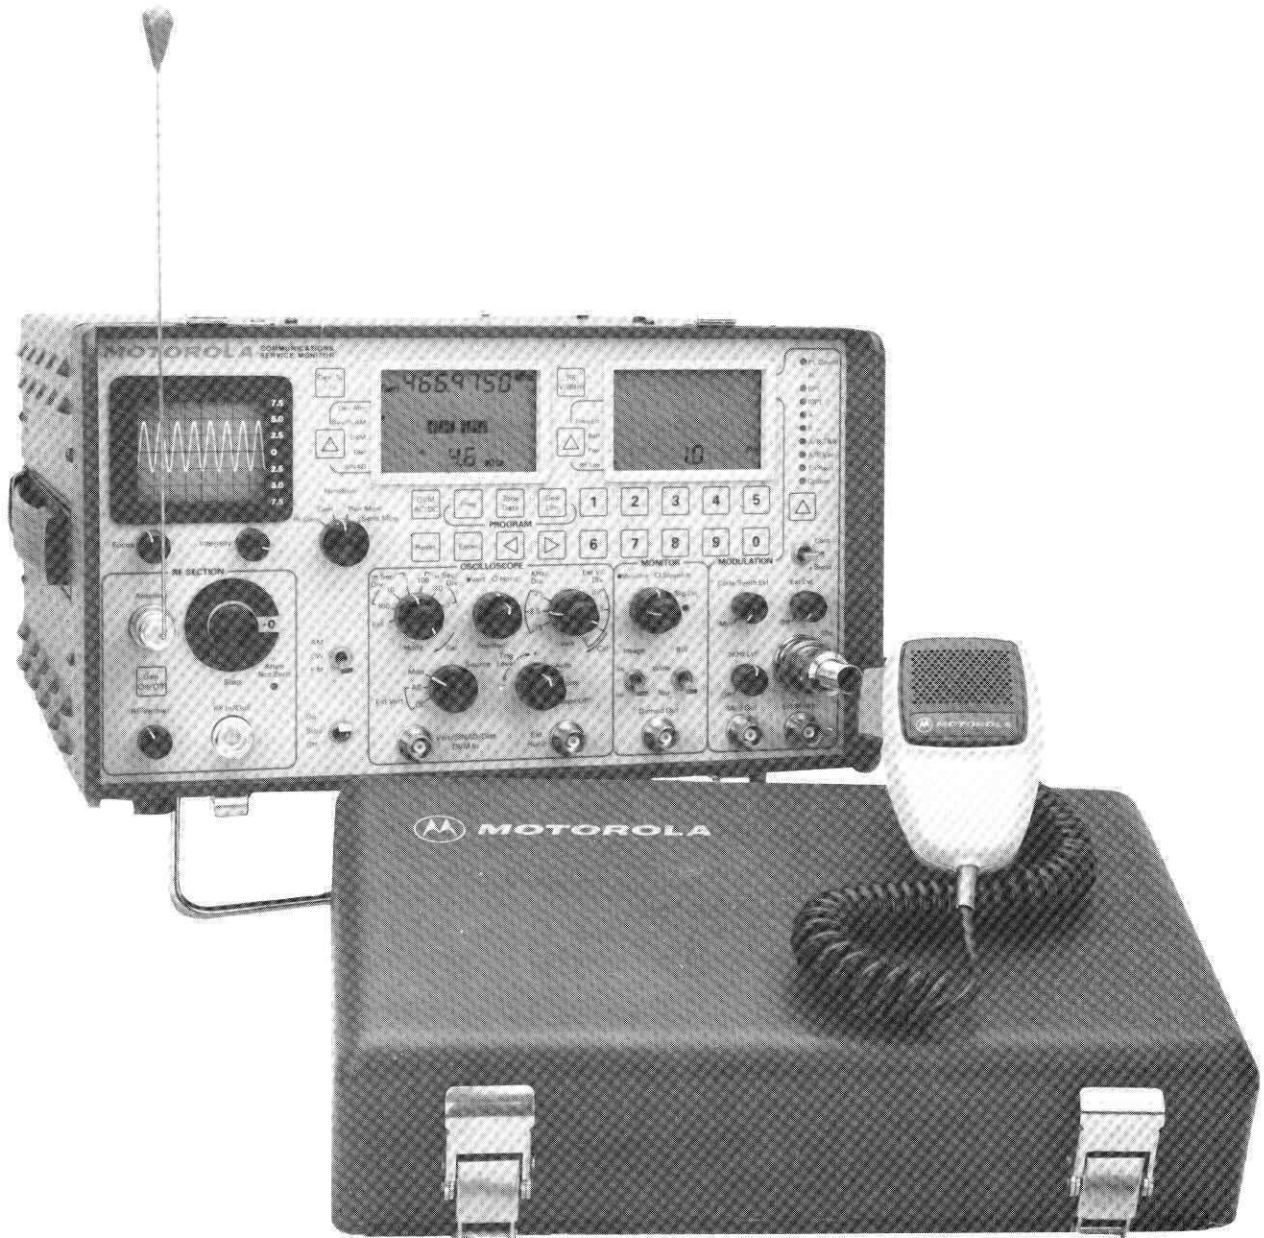

Figure 1-1. Communications Service Monitor
1.1.0 GENERAL This section lists the physical, electrical and input/output characteristics of the Communications Service Monitor shown in figure 1-1.